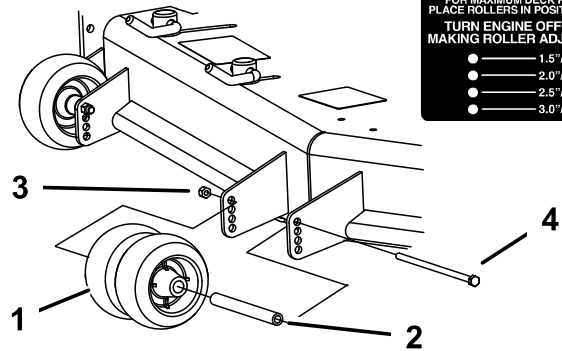
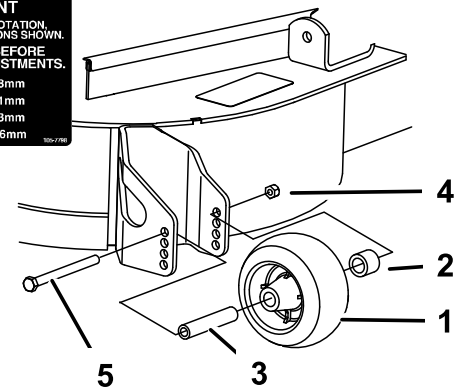

**Figure 26**
**Figure 27**
3. Adjust the anti-scalp rollers as shown in Figure 26, Figure 27, and Figure 28.